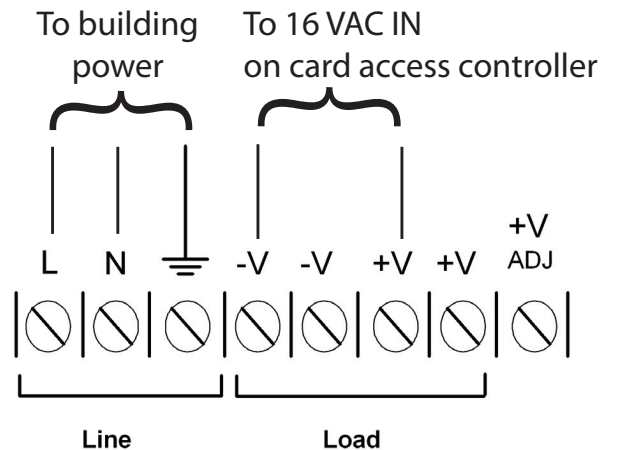

Figure 5: Terminal block wiring
4. Connect the building power supply wires to the MD-990 line terminal screws as shown in Figure 5.